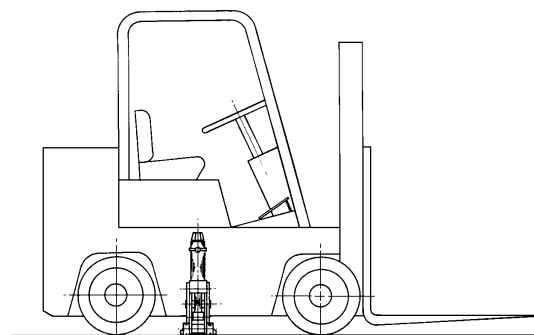

Figure 3
1. Position the jack closer to the rear wheels than the front wheels to maintain balance. See Figure 3. If the fork lift seems heavier at one end, lower the jack and move it closer to the heavy end.